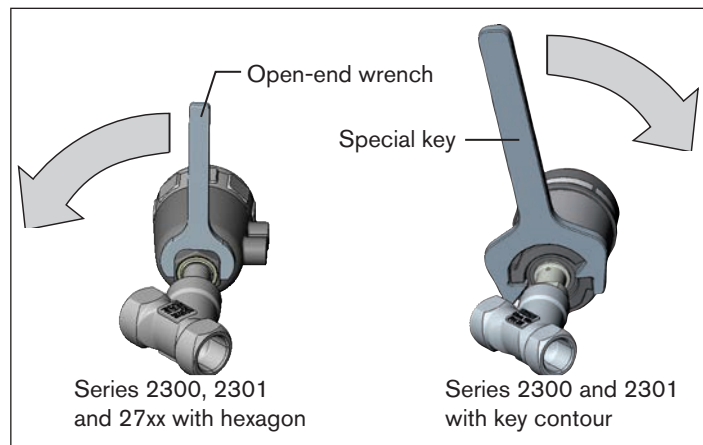

Fig. 18: Rotating with special key / open-end wrench
- ▶ Rotate the actuator module in the specified direction only (series 2300 and 2301 or 27xx, see "Fig. 18").